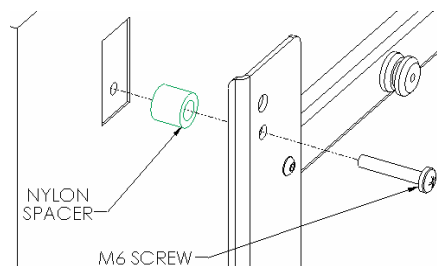
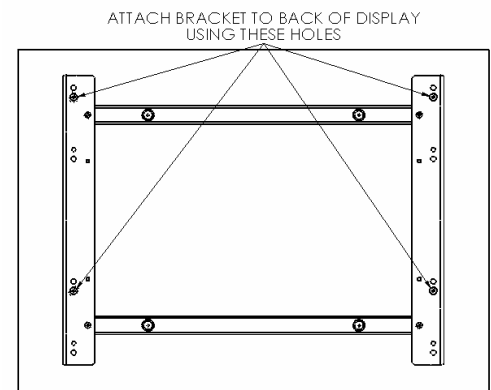

Figure 6
Figure 7
3. Place Nylon spacers over mounting holes on back of screen. Attach mounting brackets to display using the M6 screws (see Figure 6 & Figure 7).